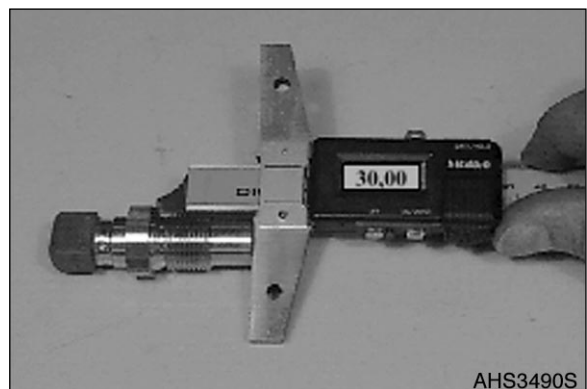
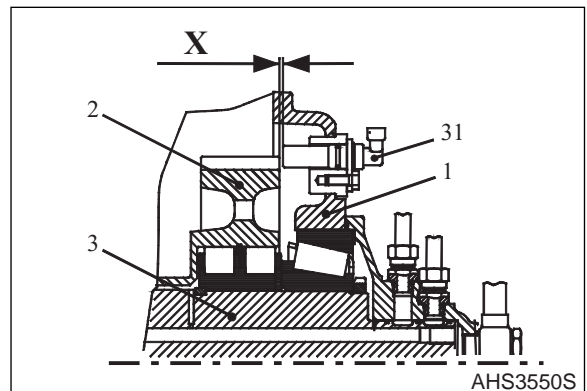
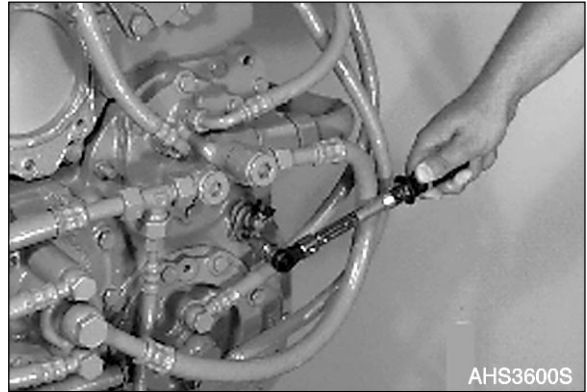

Figure 404
Figure 410
Figure 415
3. Set Dimension X using adjusting disk(s) (Figure 404 - Figure 410).
4. Install Speed sensor N-Output/Speedometer (31) (Figure 410 - Figure 415).